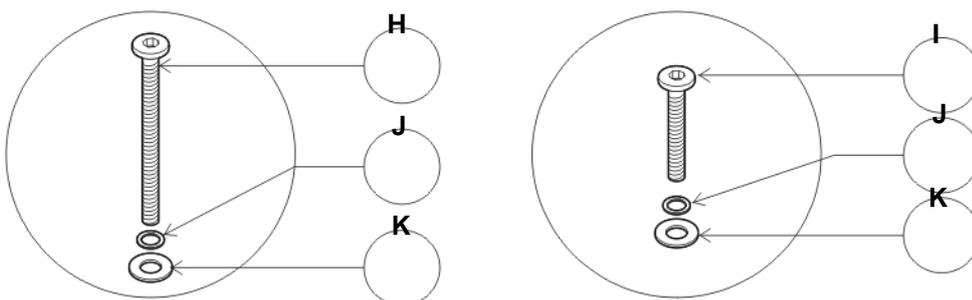

Fig. 1
1. Assemble a long bolt and washers set by threading a lock washer (J) and flat washer (K) onto a long bolt (H). Make 2 sets.
Assemble a short bolt and washers set by threading a lock washer (J) and flat washer (K) onto a short bolt (I). Make 2 sets. See fig. 1.